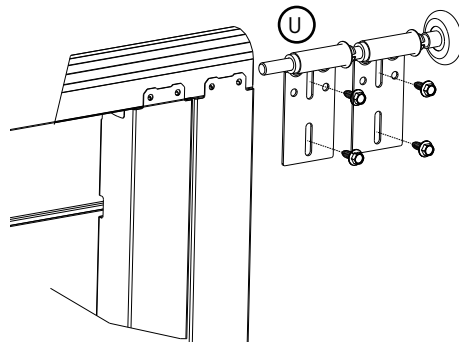

Fig: 2.2.7
- b) Attach the top hangers to the top corners of the panel, using the vertical slots only Fig 2.2.7.